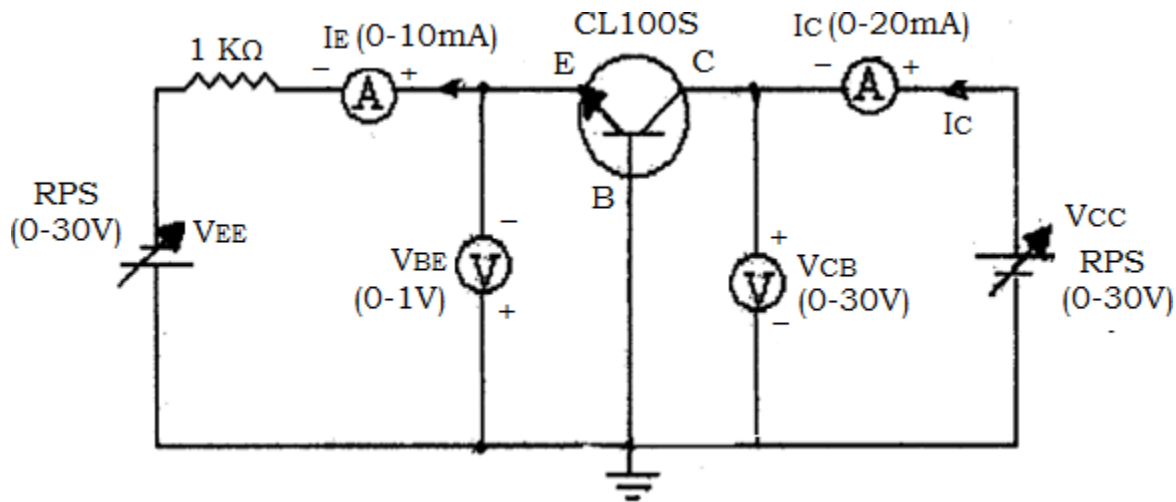

Figure 1 Circuit diagram for studying input and output characteristics of CB Transistor
1. Make the Connections as per the circuit diagram fig.1.